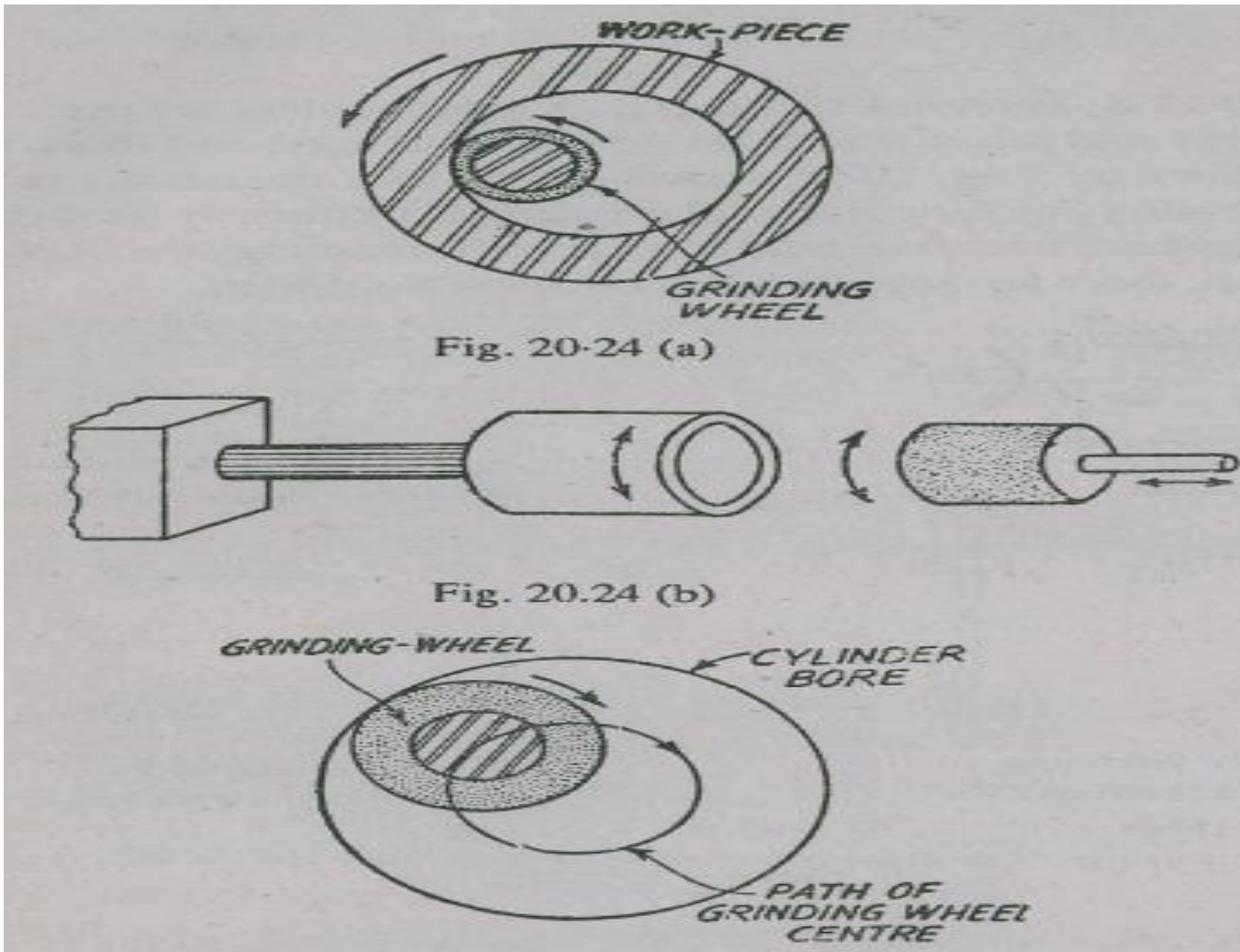

Figure35. Planetary type of grinding
- The work remains stationary and the rotating wheel spindle is given an eccentric motion, according to the diameter of hole to be ground. Such a type of operation is used where the work is difficult to be rotated. Since in this operation, the motion of the grinding wheel is in the form of planet and hence it is frequently called planetary grinding (Fig. 35).